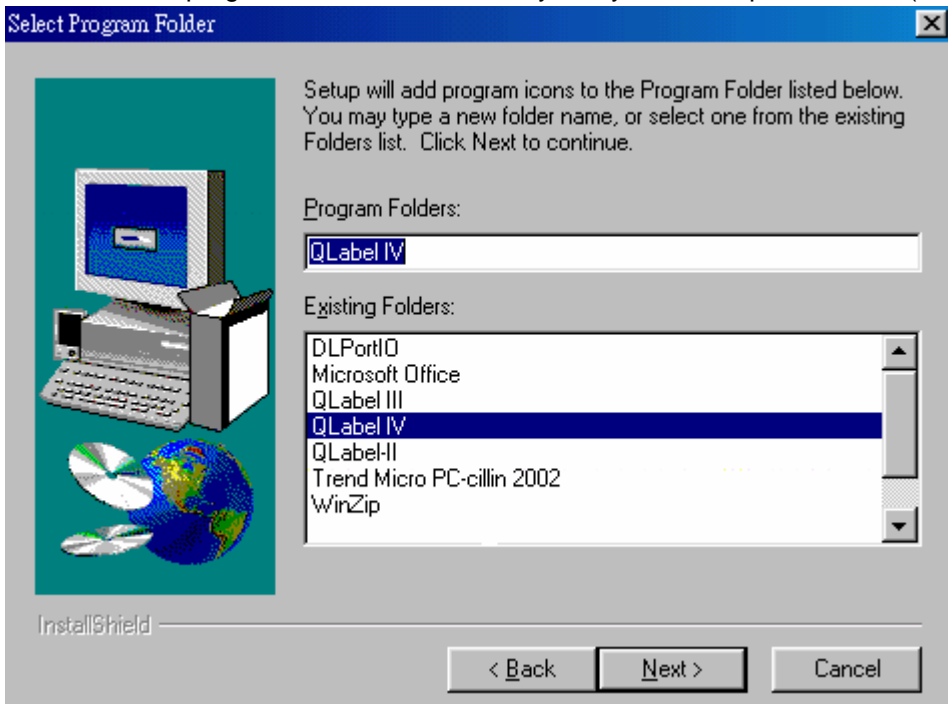

Fig.2.3
4. You can create a new program folder or use one on your system then press NEXT. (refer to the Fig.2.3)